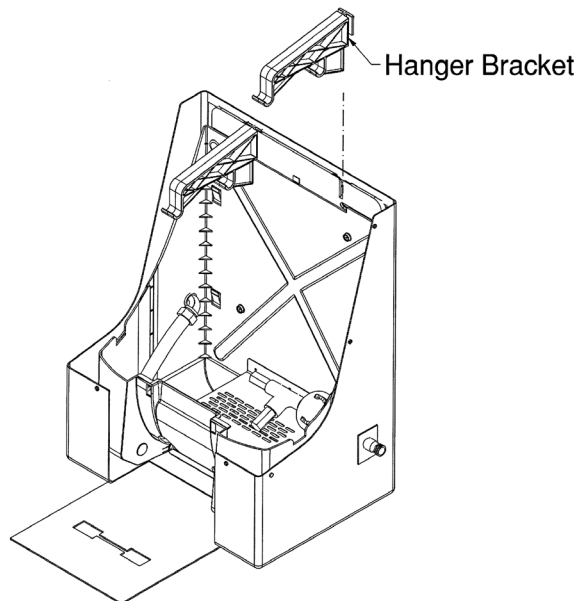

FIGURE 3
Step 3. Hanger Brackets (Ref Figure 3)